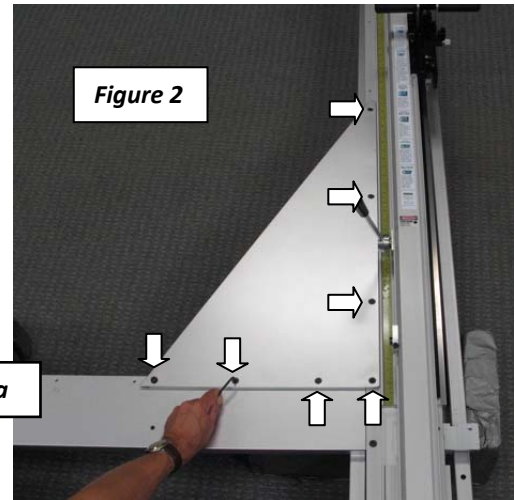

Figure 2
2. Attach the Small (triangular) Face Plate (item #8) with seven (7) more M6 x 20 flat head screws (K). (Figure 2)